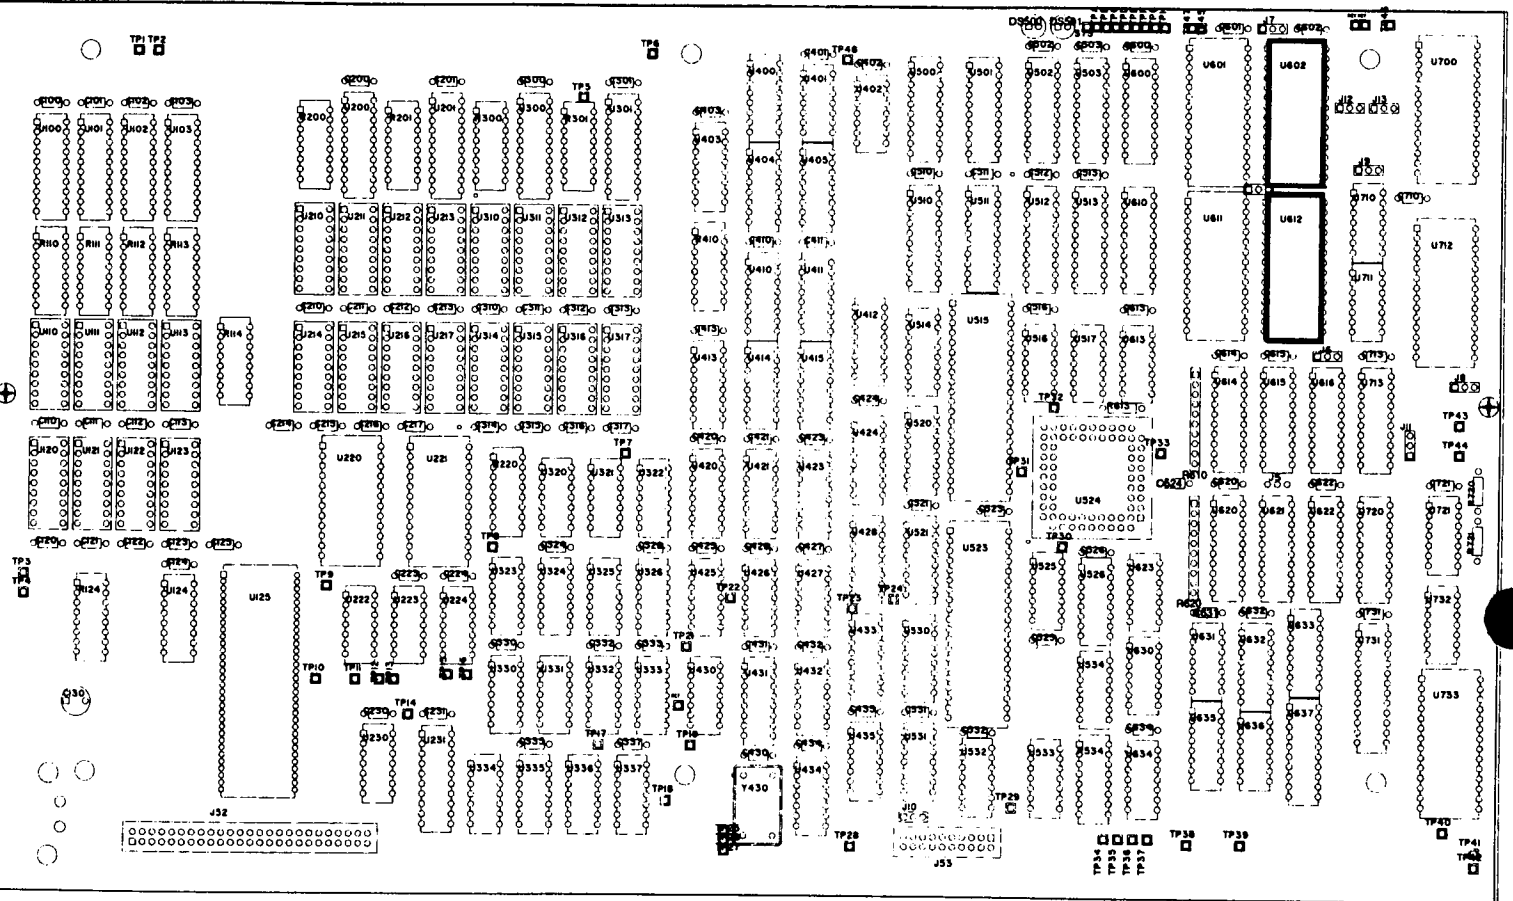

Figure 4 - Display Controller Circuit Board A7.
- ( ) 10. Remove U602 and U612, microcircuits, located on the Display Controller circuit board A7, and replace with the new microcircuits U602, pn 160-3716-XX, and U612, pn 160-3717-XX, provided in this kit. (refer to Figure 4 for component locations).